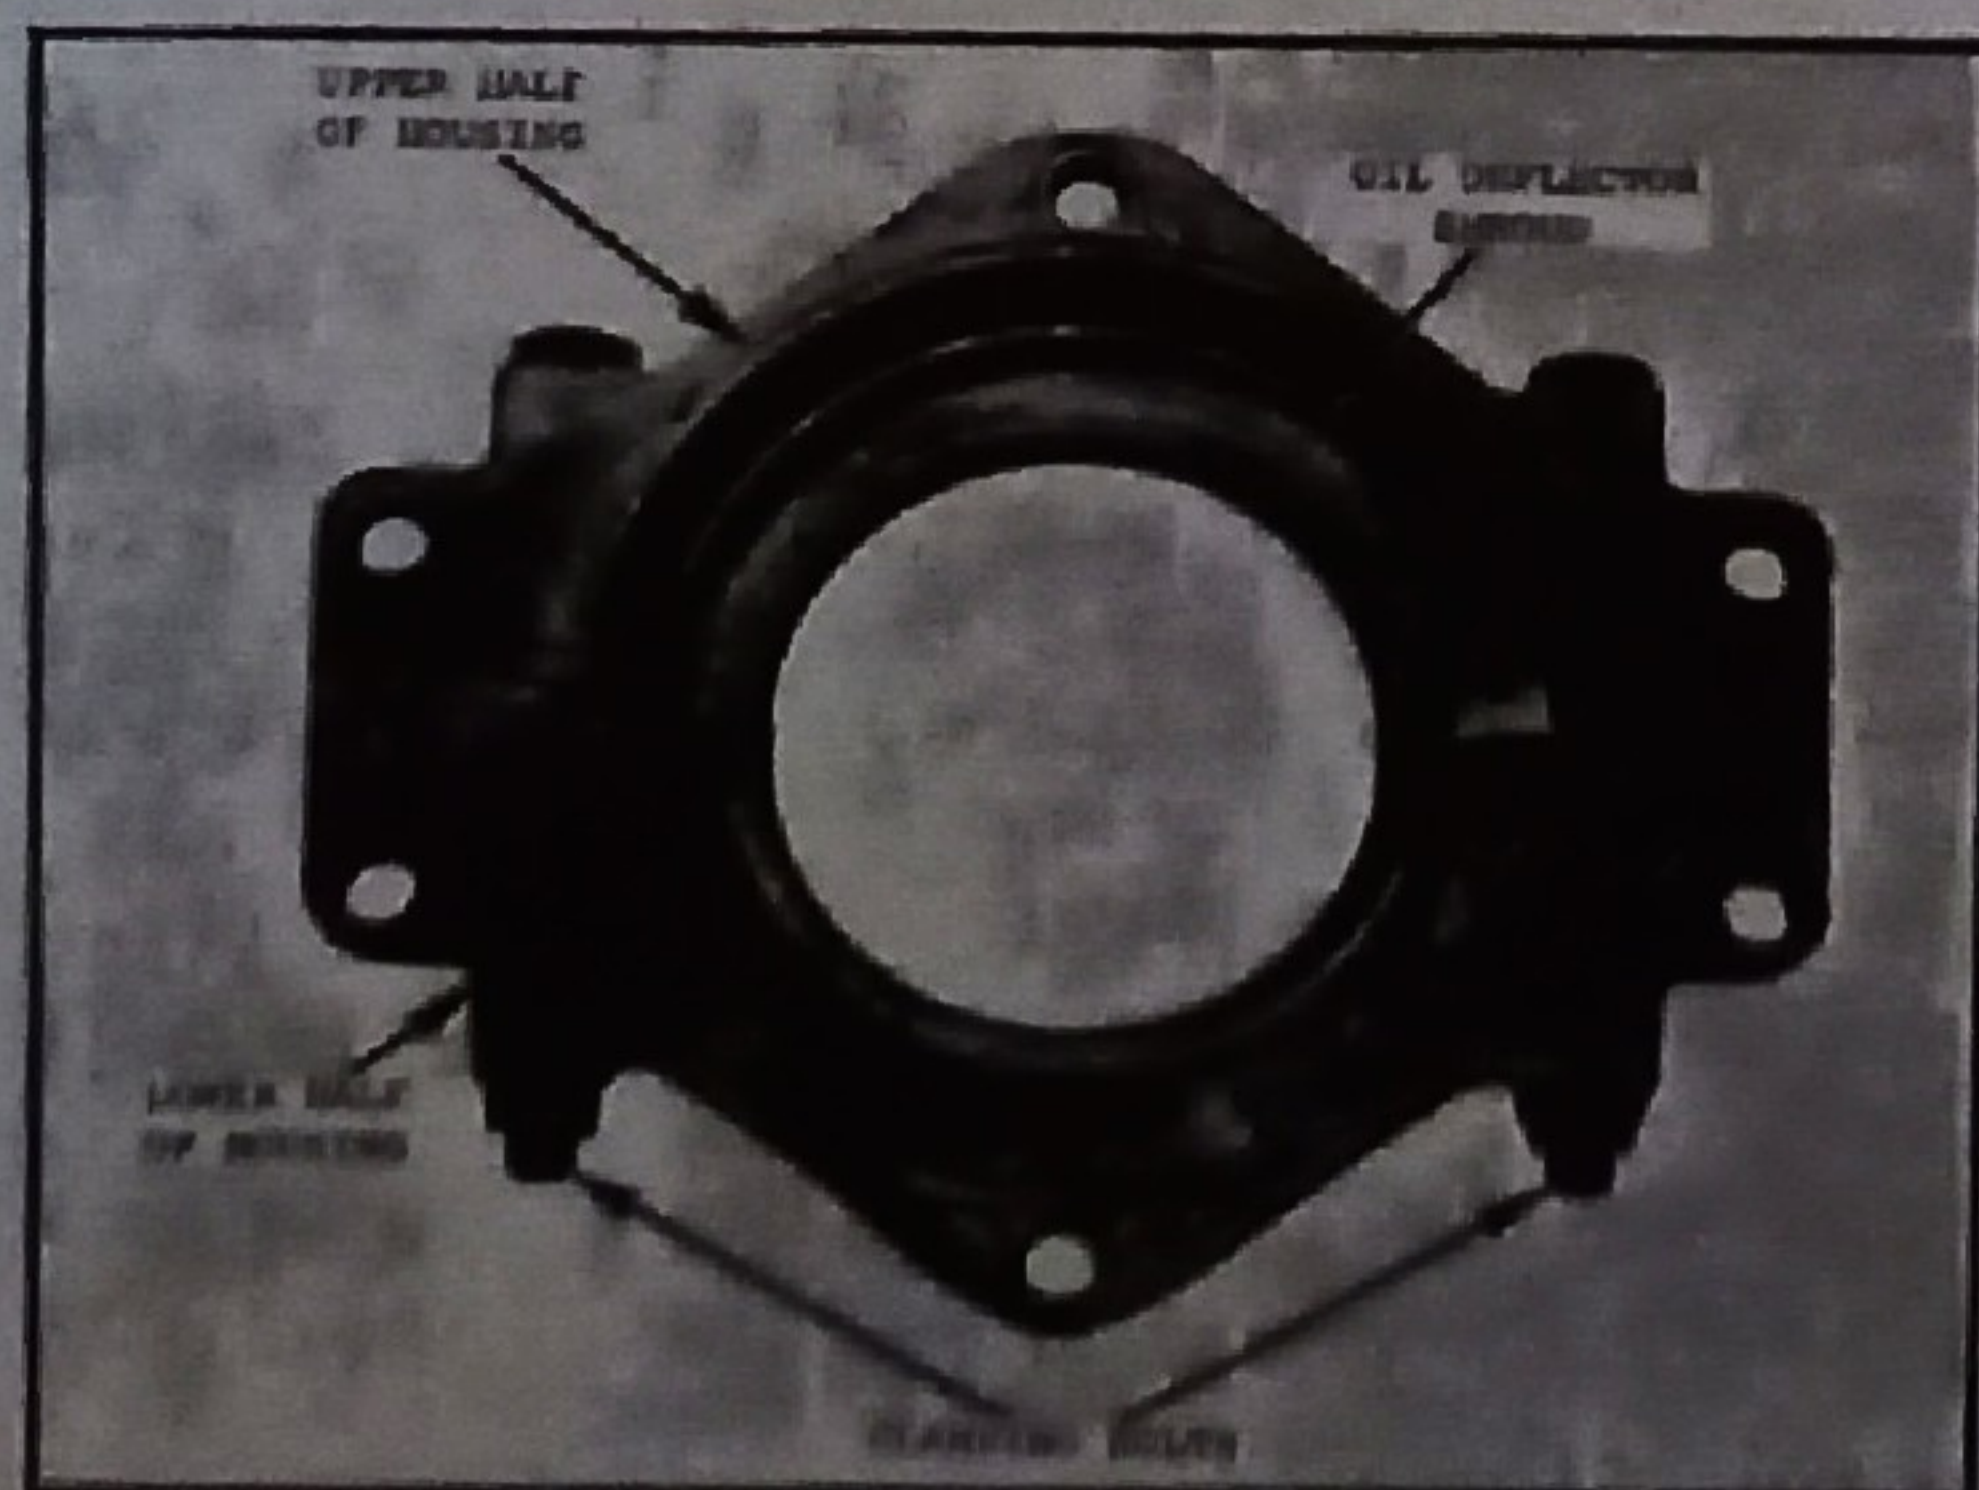

Fig. 28 - View of Upper and Lower Halves Showing Oil Deflector Shroud
10. Place the half housings in position on the engine (half housing with shroud to the top) and locate all setscrews finger tight. Refer to Figs. 28 and 29.